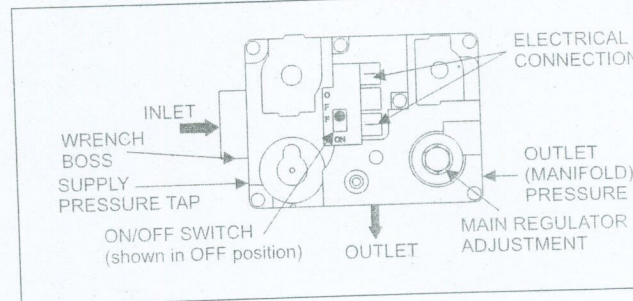

FIGURE 29: Gas Valve
1. Refer to Figure 29 for location of pressure regulator adjustment cap and adjustment screw on main gas valve.